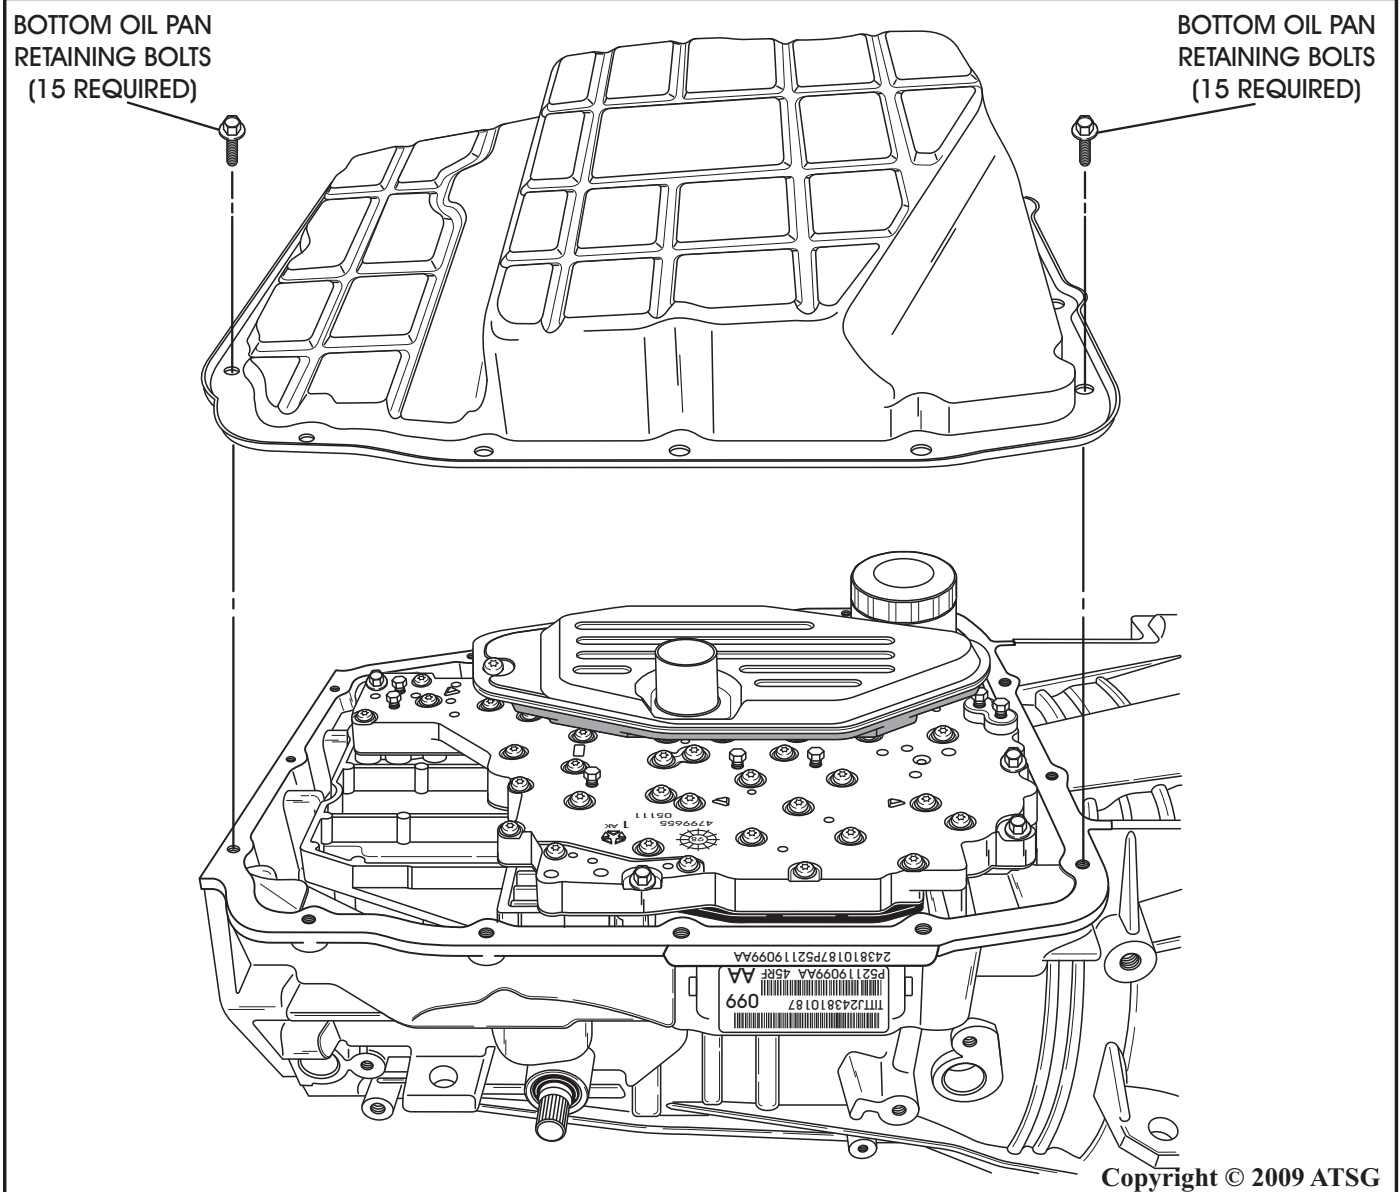

Figure 129
58. Apply a bead of RTV silicone to the bottom pan and install bottom pan on the transmission case, as shown in Figure 129.
60. Install 15 bottom pan retaining bolts, as shown in Figure 129 and torque the pan bolts down to 12 Nm (105 in lb).